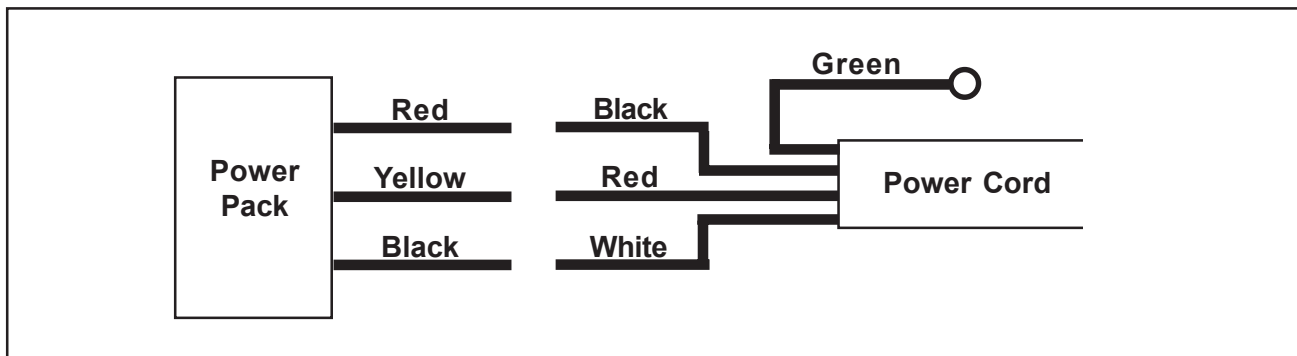

Figure 73. Wire Connections Between Power Cord and Hydraulic Power Pack
3. With three new 14/16 ga. butt-joint wire connections, connect the power cord wires to the wires in the power pack as shown in Figure 73. **Note:** The wires do NOT connect color to color (black-to-black, red-to-red, etc.).